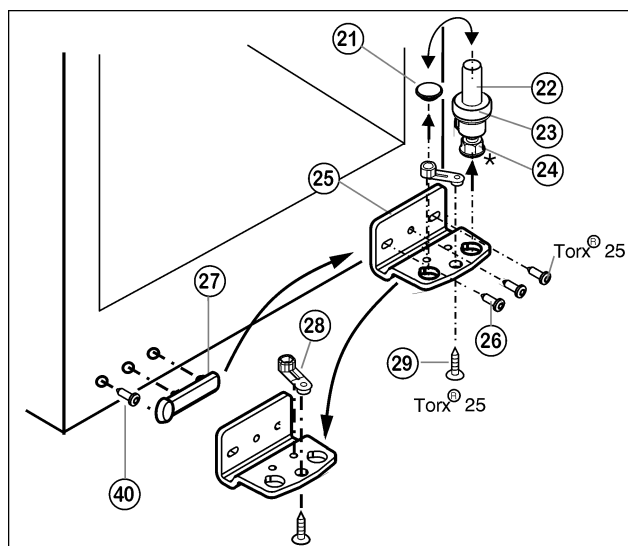

Fig. 5
- Lift out the bearing pin Fig. 5 (22) together with washer Fig. 5 (23) and adjustable-height foot* Fig. 5 (24).
- Lift off the stopper Fig. 5 (21).
- Unscrew Fig. 5 (26) the turn hinge Fig. 5 (25).
- Unscrew Fig. 5 (29) the bearing element Fig. 5 (28), transfer it to the opposite location hole of the turn hinge and screw it firmly into place.
- ▶ Carefully lift off the cover on the handle side *Fig. 5 (27)*, undo the screw *Fig. 5 (40)* and transfer both to the opposite side.
- ▶ Screw the turn hinge *Fig. 5 (25)* firmly into place on the new hinge side, possibly using a cordless screwdriver (**with 4 Nm**).
- ▶ Re-insert the stopper *Fig. 5 (21)* into the other hole.
- ▶ Re-insert the bearing pin *Fig. 5 (22)* together with the washer and adjustable-height foot*. In so doing, pay attention that the locating lug points backwards
- ▶ Lift the stopper (33) out of the door bearing bush and transfer it.
- ▶ Dismantle the door handle (32), stoppers (33) and pressure plates* (34) and transfer to the opposite side.
- ▶ Place the door from above onto the lower bearing pin *Fig. 5 (22)*.
- ▶ Insert the upper turn hinge (12) in the door on the new hinge side.
- ▶ Screw the upper turn hinge (12) **firmly** into place (**with 4 Nm**)(2x Torx® 25) (13). Possibly make preliminary holes with a bradawl or use a cordless screwdriver.
- ▶ Snap the cover (10) and cover (11) into place at the opposite side.
- ▶ Align the door to the appliance housing by way of the two oblong holes in the bottom turn hinge *Fig. 5 (25)*. To do so, unscrew the middle screw.